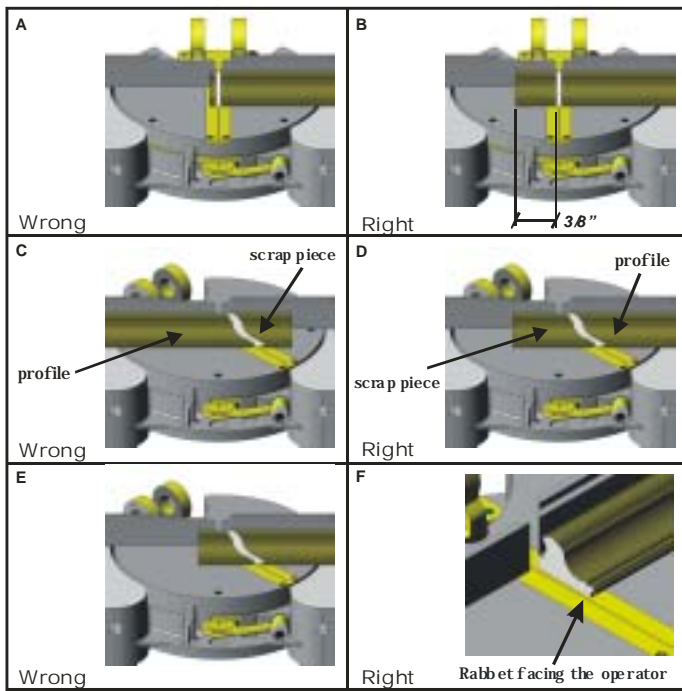

Figure 01
- When cutting the profiles, the rabbet must be facing the operator, as shown in figure 01 (F). Must be avoid cuts as figure 01 (C) or else the saw blade can pull the scrap piece into the machine, and that way offering risk to the operator or damage to the machine.
- In order to obtain a good finishing and safety when cutting observe on top of the profile that you must allow at least 3/8" (10mm) of wood between the cut and the end of the stick as figure 01 (B).
- When cutting the profiles with rabet, the rabet must be facing the operator as figure 01 (F).